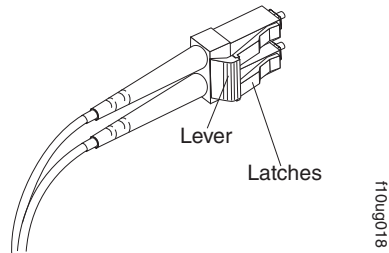

Figure 46. LC-LC fibre-channel cable lever and latches
1. On the end of the cable that connects into the LC connector end of the LC-SC cable adapter, press down and hold the lever to release the latches. Figure 46 shows the location of the lever and latches.